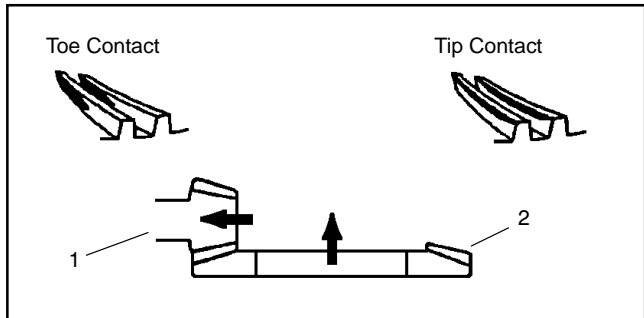

Figure 42
2. If contact is toward the toe or tip of the gear (Fig. 42):